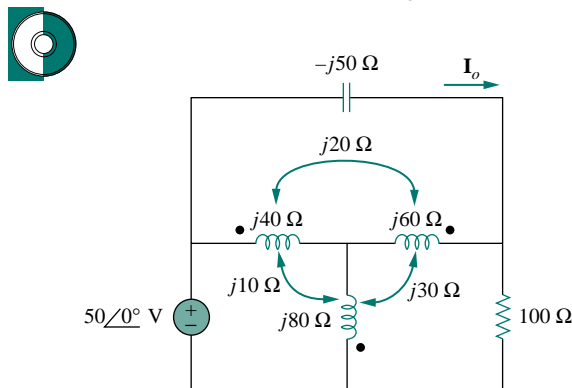

Figure 13.85 For Prob. 13.15.
- *13.15** Find current \mathbf{I}_o in the circuit of Fig. 13.85.